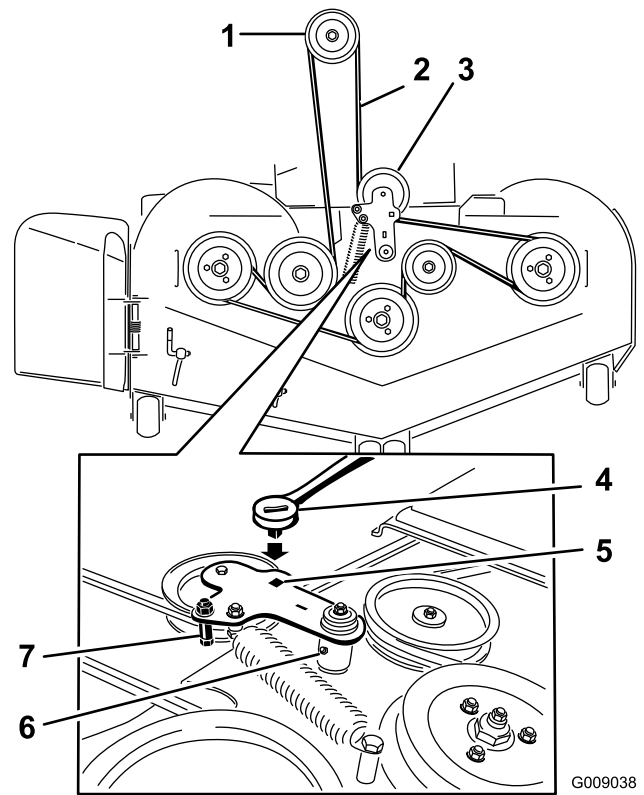

Figure 103
6. Lift up the floor pan and insert a ratchet into the square hole in the deck idler (Figure 103).
7. Rotate the deck idler clockwise and remove the mower belt (Figure 103).